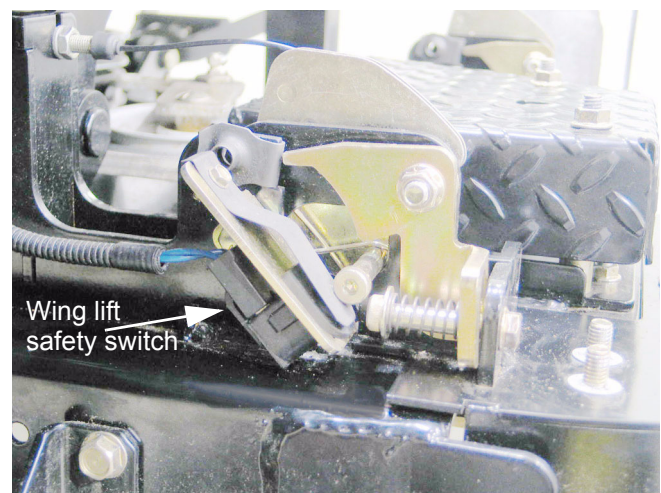

Figure 28.13
28.13. **Wing lift safety switch:** The wing lift safety switches are normally open (N.O.), and wired together in series. See Figure 28.13.